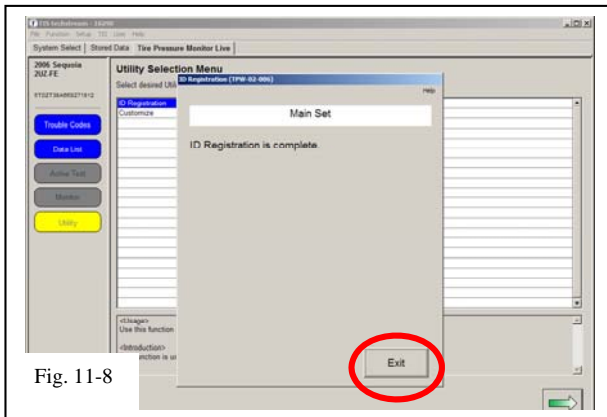

Fig. 11-8
- (k) After all TPMS ID numbers have been registered, “**ID Registration is complete**” text should be displayed. Click “**Exit**” to finish the registration process (Fig. 11-8).